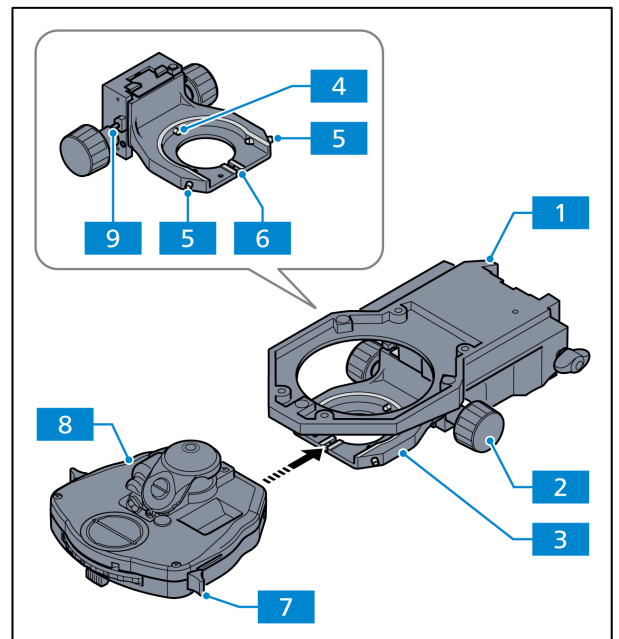

Fig. 3-22 Mounting the condenser
- Unscrew both centering screws (Fig. 3-22/5) on the condenser carrier until you cannot see the end parts anymore.
- Unscrew the clamping screw (Fig. 3-22/9) on the right side of the condenser carrier until the maximum vertical adjusting range is usable.
- Slide the condenser carrier (Fig. 3-22/3) with the knurled knob for vertical adjustment (Fig. 3-22/2) all the way down.
- Open the front lens (if switchable) on the condenser using the lever (Fig. 3-22/7).
- Insert the condenser (Fig. 3-22/8) between the condenser carrier (Fig. 3-22/3) and the stage carrier (Fig. 3-22/1). Adjust the guide pin on the bottom of the condenser in the direction of the slot (Fig. 3-22/6).
- Push the condenser with the dovetail ring against the spring box (Fig. 3-22/4) of the condenser carrier until the condenser can be placed on the condenser carrier horizontally.
- Release the condenser and its pin screw will slide into the front slot (Fig. 3-22/6).
- Unscrew the clamping screw (Fig. 3-22/9) without clamping the vertical drive.